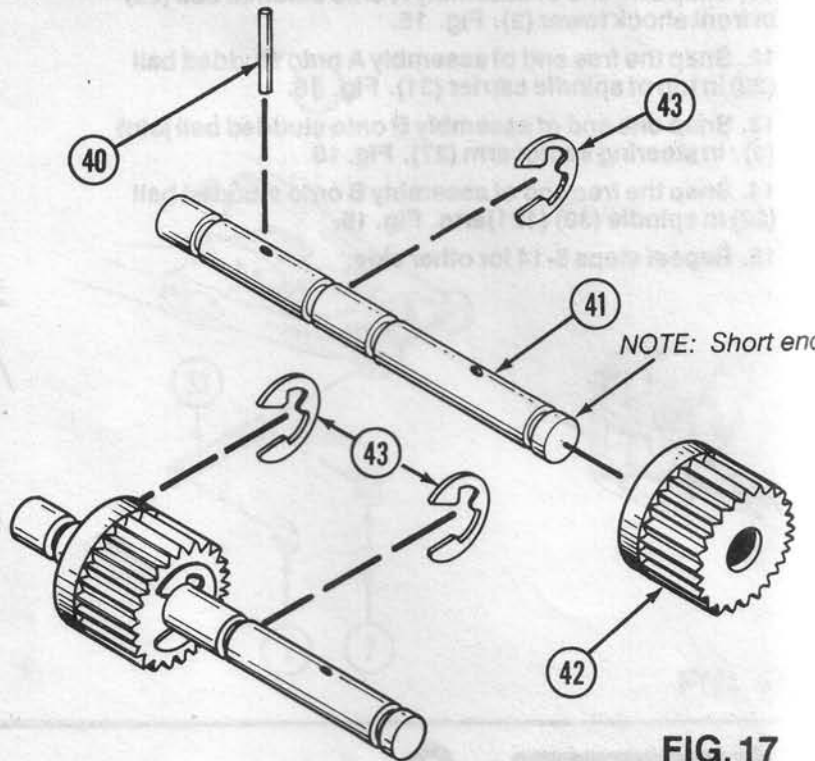

FIG. 17
1. Insert 1/16" x 7/16" solid pin (40) through top gearbox shaft (41). Fig. 17.
2. Slide internal pinion gear (42) down shaft (41) so pin interlocks with groove in gear (42). Fig. 17.
3. Secure gear (42) onto shaft (41) using 3/16" E-clip (43) and attach two 3/16" "E" clips (43) in the other grooves shown on shaft (41). Fig. 17. This is now assembly C. Set aside until step - 29.